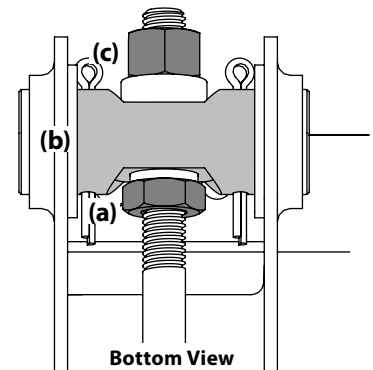

Figure 4-7
5. Using a wrench, raise the front of deck by loosening the lock nuts (a) to the front of the pivot pin (b) and then tighten the jam nuts (c) on the back of the pivot pin to raise the front of the deck and secure in place. See Figure 4-7.
6. Using a wrench, lower the front of deck by loosening the jam nuts (c) on the back of the pivot pin (b) and then tighten the lock nut (a) on the front of the pivot pin to lower the front of the deck and secure in place. See Figure 4-7.